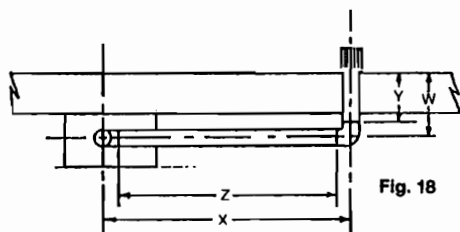

Fig. 18
5.5.23 Ensure when siting the flue hole position that the combined distances (Y&Z on fig 18) between the flue elbow on the boiler to the extra bend and from the face of the outside wall to the extra bend do not total more than 3.75 metres.
5.5.24 Measure carefully the distance between the centre of the flue bend on the boiler to the centre of the hole through the wall (dimension X fig. 18).
5.5.31 Ensure that the flue pipe runs parallel to the wall then carefully measure the distance from the outside face of the wall to the centre of the extra bend (dimension W fig. 18).